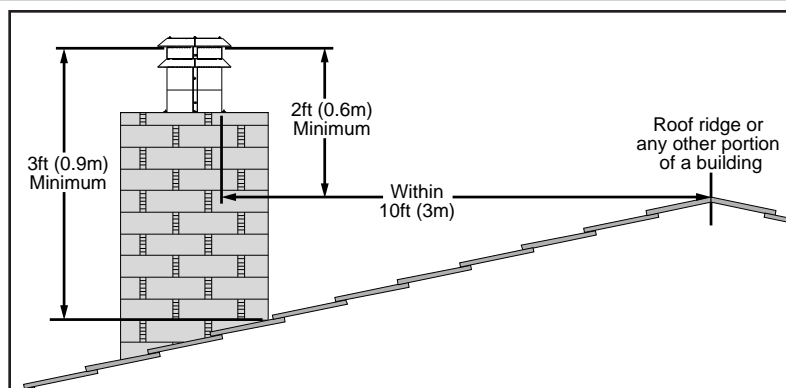

Figure 25: Roof Clearances.
1. Plan your installation and clearances to combustibles. The E44I may be installed and vented into any solid fuel fireplace that has been installed in accordance with the National, Provincial/State and local building codes and has been constructed of non-combustible materials. Also refer to the INITIAL INSTALLATION - PREPARING YOUR E44I FOR INSTALLATION and CLEARANCES TO COMBUSTIBLES sections. Refer to Figure 25 throughout installation.